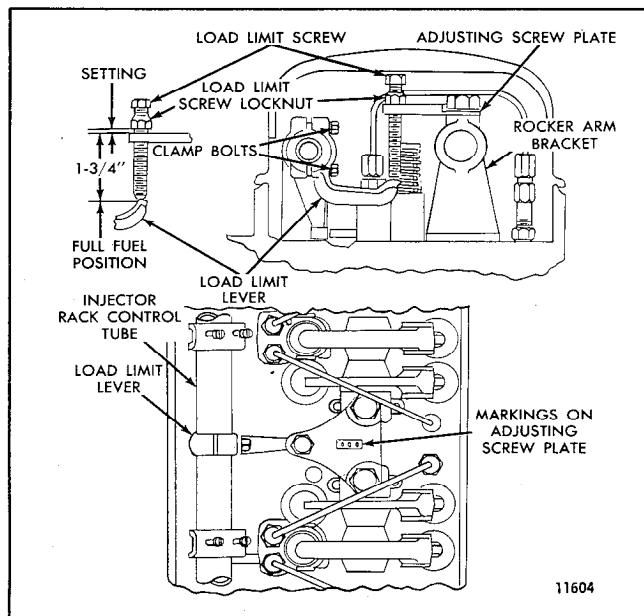

Fig. 1 - Engine Load Limit Device
Engines with mechanical governors may be equipped with a load limit device (Fig. 1) to reduce the maximum horsepower.
Fig. 1. Make sure the counterbores in the adjusting screw plates are up. The rocker arm shaft bracket bolts which fasten the adjusting screw plate to the brackets are tightened to 75–85 lb–ft (102–115 Nm) torque (all other rocker arm shaft bracket bolts are tightened to 90–100 lb–ft or 122–136 Nm torque). Then adjust the load limit device, on each cylinder head, as follows:
3. With the screw out of the plate, adjust the load screw lock nut so the bottom of the lock nut is 1 3/4" from the bottom of the load limit screw (Fig. 1) for the initial setting.